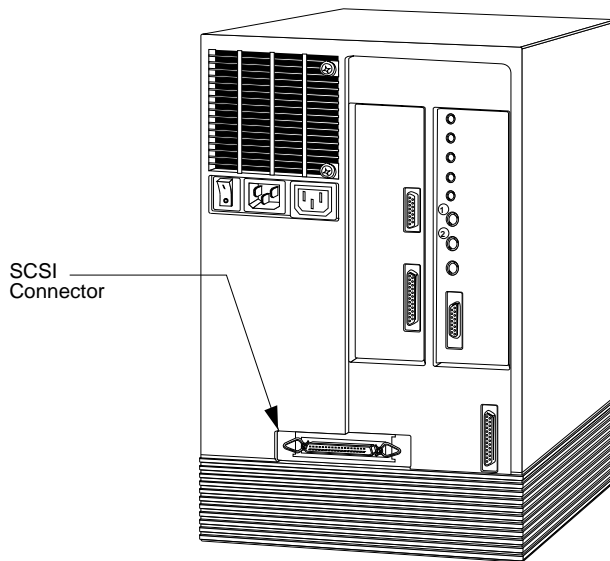

Figure 6-34 SCSI Connector on the Back of the Chassis
- Gently put the terminator on SCSI connector on the back of the Indigo chassis, as shown in Figure 6-34, and secure the clips on each side of the terminator.